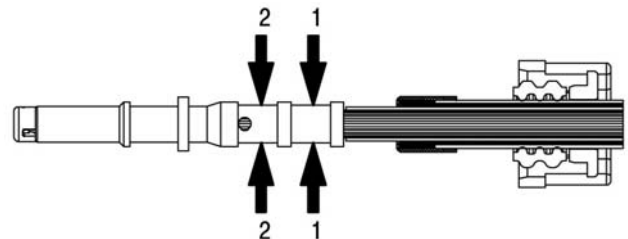

Figure 9
8. Crimp the terminal to the conductor core using the Daniels TH695 turret head as shown in Figure 9. The TH695 turret head should be on selector setting 6.